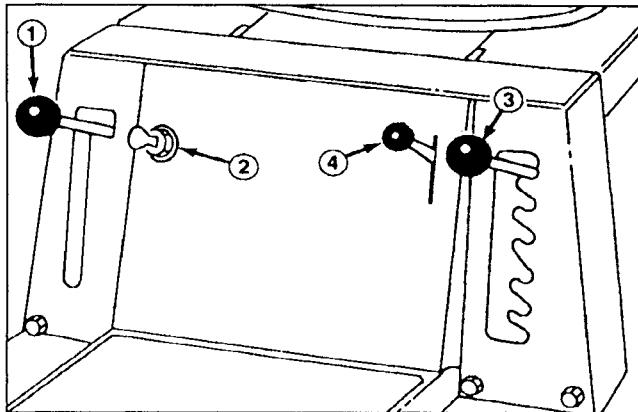

Figure 9
**Deck Engagement Lever** (Fig. 9) — Engages and disengages the cutter blade. An interlock switch prevents engine from starting when control is in the ENGAGE position. Engine will start when control is in DISENGAGE position only.
**Ignition Switch** (Fig. 9) — Switch is part of engine ignition system, and it has three positions: OFF, ON and START. Key automatically returns to ON position from START position when released after engine starts.
**Height-of-Cut Control** (Fig. 9) — Varies the cutting height from approx. 1-1/2 to 4 inches (38 to 102 mm) in six increments.
**Throttle Control** (Fig. 9) — Throttle control connects to and operates carburetor mounted throttle and choke. Control has three positions: SLOW, FAST and CHOKE. Push control slightly to the left and upward to obtain CHOKE position.